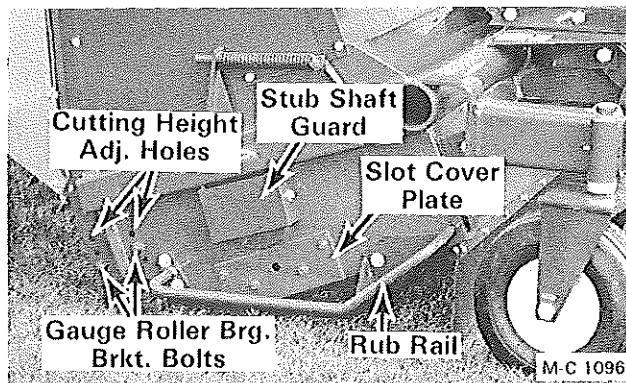

Figure 27
2. Remove the stub shaft guard and the rotor slot cover plate, see Figure 27.
2. Support both ends of the gauge roller. Remove the two ½ inch capscrews, hex-nuts and lockwashers securing the bearing brackets to the Lawn Genie body, see Figure 27. Lower the gauge roller.